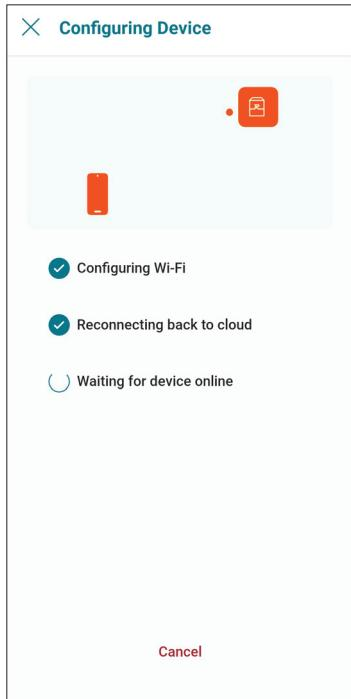

Figure 118. Configuring Device
9. Rayremote app will provide the Wi-Fi credentials to your unit. This process may take a few seconds. See **Figure 118**.